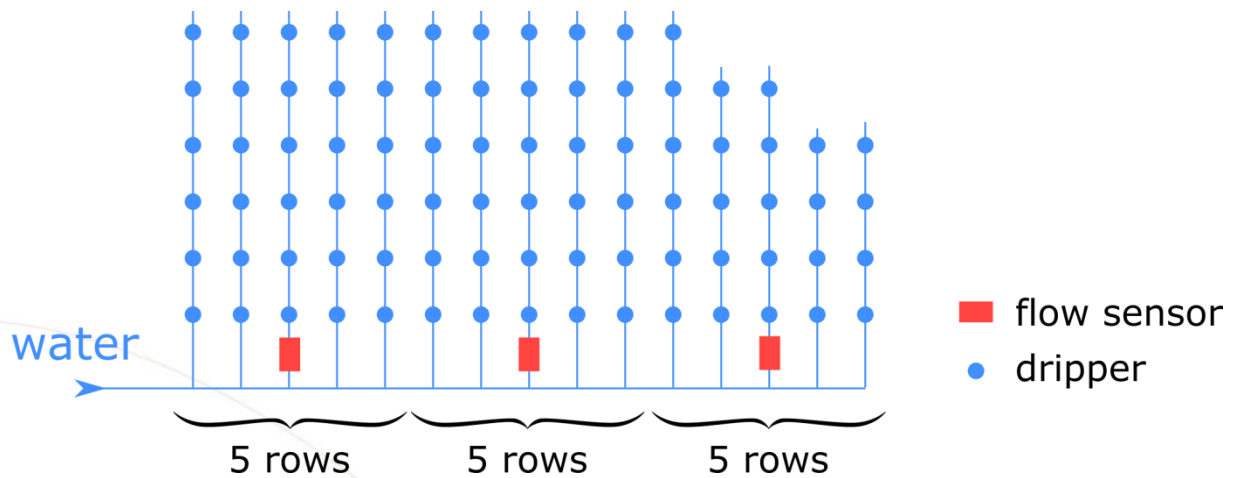

Figure 3. Example of a vineyard block with 15 rows.
- The 3 flow sensors should be **evenly distributed** in the block (Figure 3)